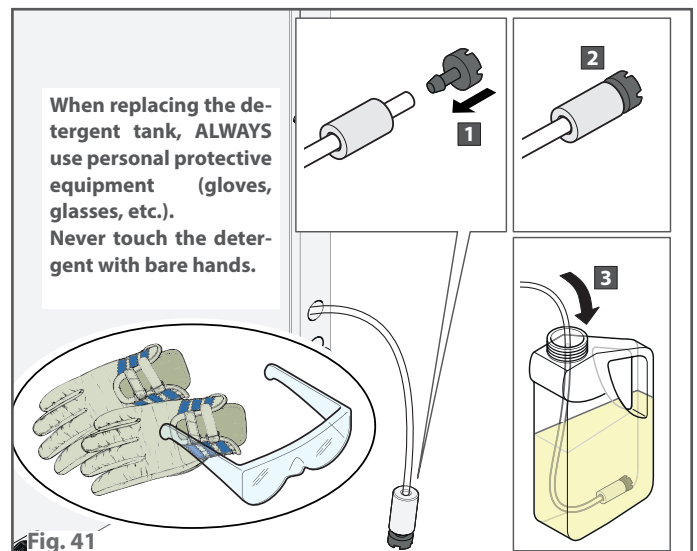

Fig. 41
- each time the detergent tank is replaced ► **Fig. 41**;